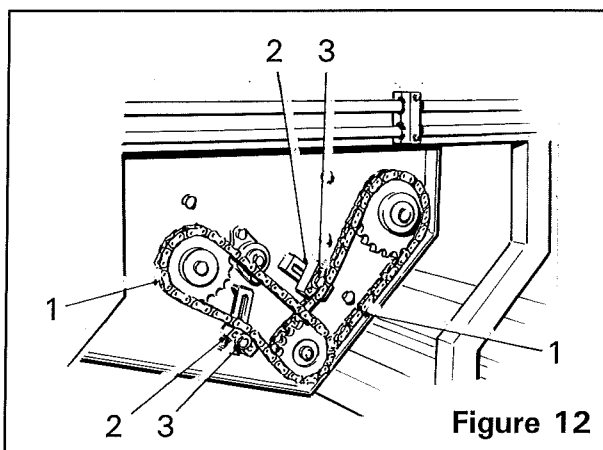

Figure 12
The 3rd stage web and agitator are driven by two drive chains (*item 1, figure 12*). Each drive chain is tensioned by a tension block (*item 2, figure 12*). To adjust the tension of the chains, loosen the securing bolts (*item 3, figure 12*) and slide the blocks to achieve the correct tension. Once achieved, retighten the securing bolt.